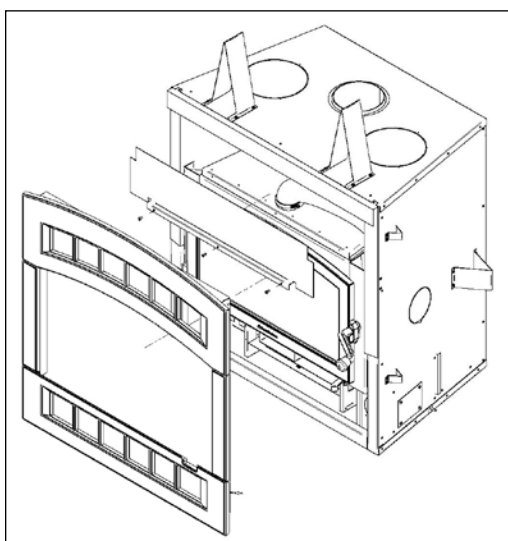

Figure 28
2. Install the deflector as shown on figure 28;